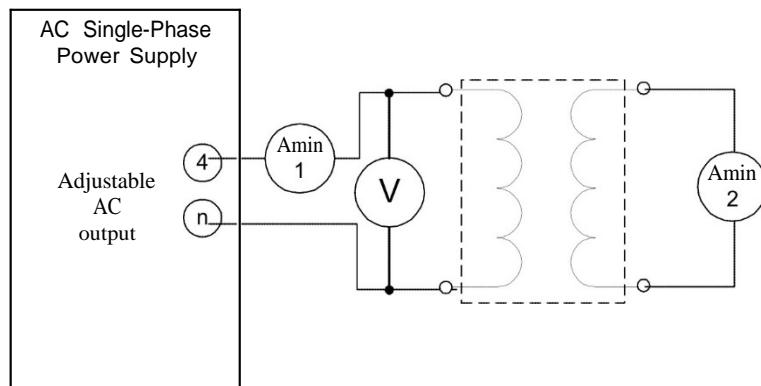

FIGURE 4.12
This test is an AC test in which a small AC voltage is applied to the primary winding while primary and secondary are connected as shown in Figure 4.12. If the voltage across the non-connected winding terminals is greater than the applied voltage then the transformer polarity is additive and therefore the jumper wire is connecting different polarity winding terminals. If the voltage across those terminals is less than the input voltage, the polarity is then subtractive and therefore the jumper wire is connecting identical polarity winding terminals.
The set up of the short-circuit test is shown in Figure 4.12. As we can see, the short-circuit is done using an AC ammeter which when placed across any pair of terminal creates a short-circuit between them because of its low internal impedance. This test **MUST be performed quickly** and at very low voltage values since the transformer secondary winding can be burned. The applied test voltage should be approximated prior to performing the test using the DC resistance of the winding and the rated current, so:
- 4) A short-circuit test was done over the transformer in Figure 4.12. If  $V_s = 20 \text{ V}$ , determine:
- Use phasor analysis and the transformer model of Figure 4.12 to determine what is the voltage regulation of this transformer.
- Step 2: Connect the alternating voltage circuit shown in Figure 4.12, first for the case 120/208 volts and later for the 120/120 volts case. Use the adjustable AC output of the power supply as your power source. (DO NOT turn on the power supply yet).
- Step 1: Connect the circuit shown in Figure 4.12. The terminals short-circuited are terminals 1 and 2, and the adjusted AC output of the power supply connected to terminals 3 and 4.